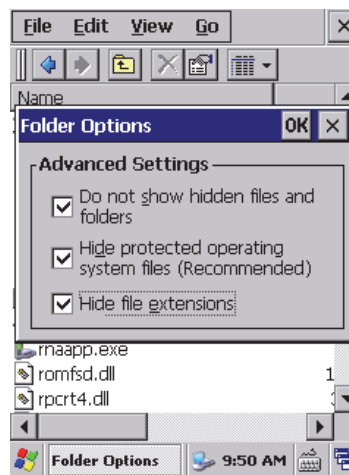

Figure G-18 All Advanced Settings checked
9. Tap **View > Options**, and then recheck all three boxes under **Advanced Settings** (see Figure G-18 on page 185).